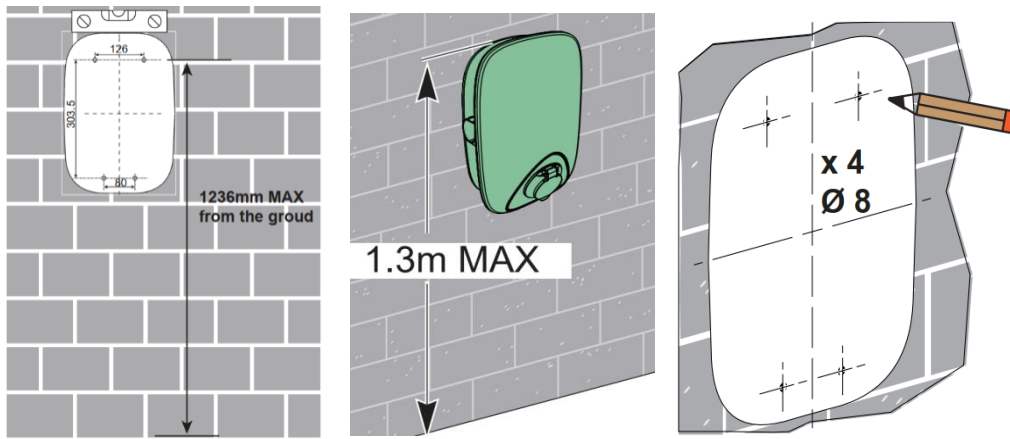

Figure. 16 Marking drill holes
(2) Confirm the installation position. A distance of 1-1.3m between the top of charging point and the ground is recommended. Confirm the levelness of template with a level ruler. Then mark the drill holes with a pencil, as shown in Figure. 16.